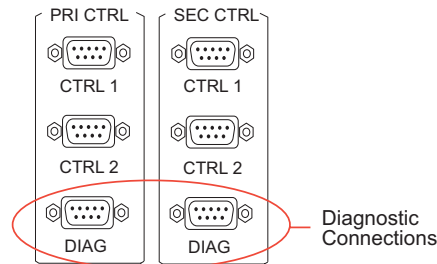

Figure 3-16. Diagnostic Connections (Rear View)
- 1 Locate the diagnostic connections on the rear of the router, as shown in Figure 3-16. The diagnostic connections are labeled ‘DIAG’.